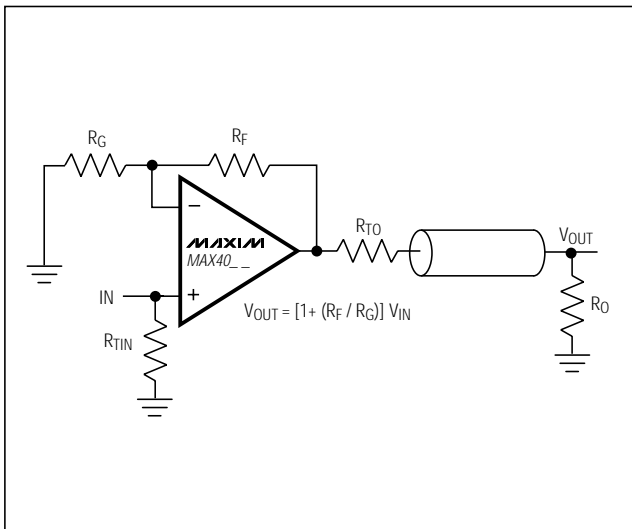

Figure 1a. Noninverting Gain Configuration
Select the gain-setting feedback (RF) and input (RG) resistor values to fit your application. Large resistor values increase voltage noise and interact with the amplifier's input and PC board capacitance. This can generate undesirable poles and zeros and decrease bandwidth or cause oscillations. For example, a noninverting gain-of-two configuration (RF = RG) using 1kΩ resistors, combined with 1pF of amplifier input capacitance and 1pF of PC board capacitance, causes a pole at 159MHz. Since this pole is within the amplifier bandwidth, it jeopardizes stability. Reducing the 1kΩ resistors to 100Ω extends the pole frequency to 1.59GHz, but could limit output swing by adding 200Ω in parallel with the amplifier's load resistor. Table 1 shows suggested feedback, gain resistors, and bandwidth for several gain values in the configurations shown in Figures 1a and 1b.